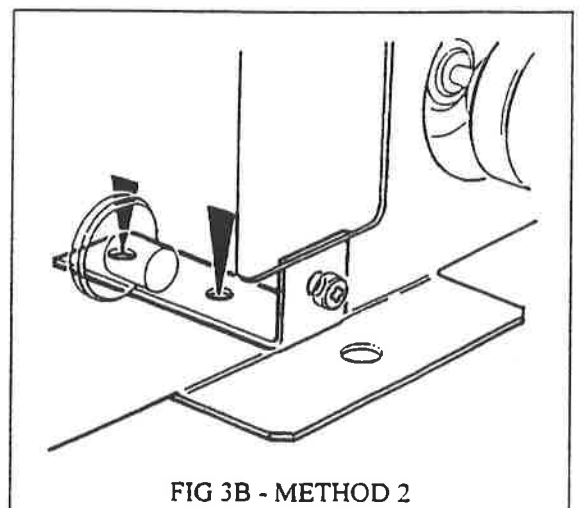

FIG 3B - METHOD 2
The burner unit can be fixed in the fireplace in two alternative ways. Method 1 (see fig 3a) is the simplest but if the hearth is such that the drilling a fixing hole in the hearth would be difficult or unsightly method 2 (see fig 3b) should be employed.
- Mark on the fireplace floor the position of one of the fixing holes in the bracket which will require attachment to the front leg see fig 3b. There are two holes in this bracket to allow the soundest and most even surface of the fireplace floor to be used for fixing.